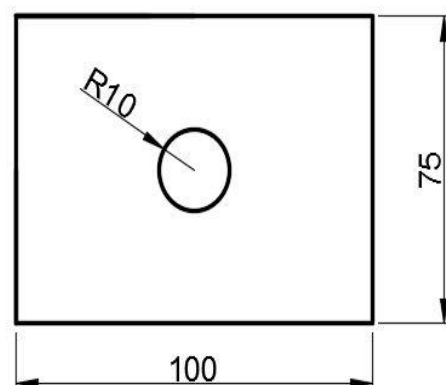

Fig 2
3. Draw a circle on the centre of the mild steel sheet using divider as per the fig 2.